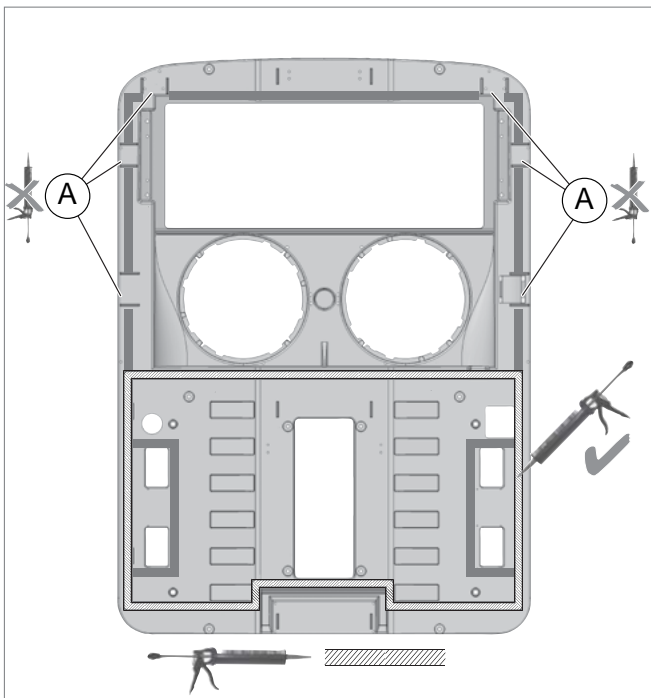

Fig. 09: Apply Sikaflex for roof curvature of 5,200 mm
- ▶ Apply Sikaflex on the other, non-adhesive side. See Fig. 09